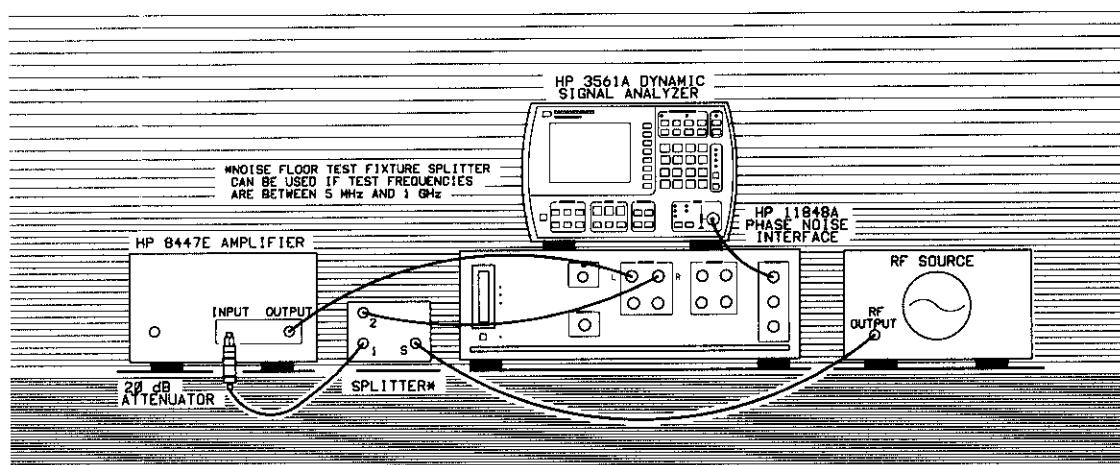

Figure 5-1. Setup diagram for the HP 8447E Amplifier Measurement Example.
3. When the Connect Diagram appears, connect the signal paths as shown in Figure 5-1. Figure 5-1 differs from the Connect Diagram shown on the computer's display. (The setup considerations provided in Table 5-3 will help you ensure that your measurement results are valid.)